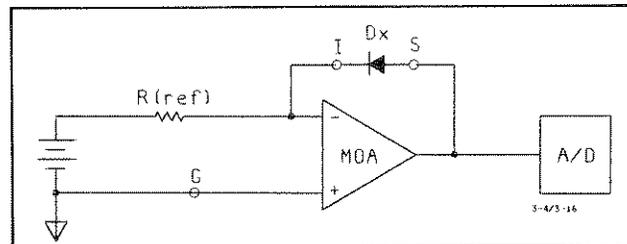

Figure 3-7. T4 Functional Block.
**3-18. T4—Diode Junction Test.** Unlike T1, T2, and T3; T4 connects the reference element into the input circuit of the MOA and connects the diode junction in the feedback path, shown in Figure 3-7. In this configuration the MOA is converting a known current into an unknown voltage that is measured at the output of the MOA. In the Diode Junction Test the current used is in the forward direction of the diode and the forward junction voltage drop is measured. For a silicon diode this is typically 0.6 V at a specific current. For zener diodes a reverse bias current can be set up and the zener voltage (if less than 15 V) can be tested at the specified current. The formula for determining the current that will go through the diode junction is: Source Amplitude  $\div$   $R_{ref}$ .